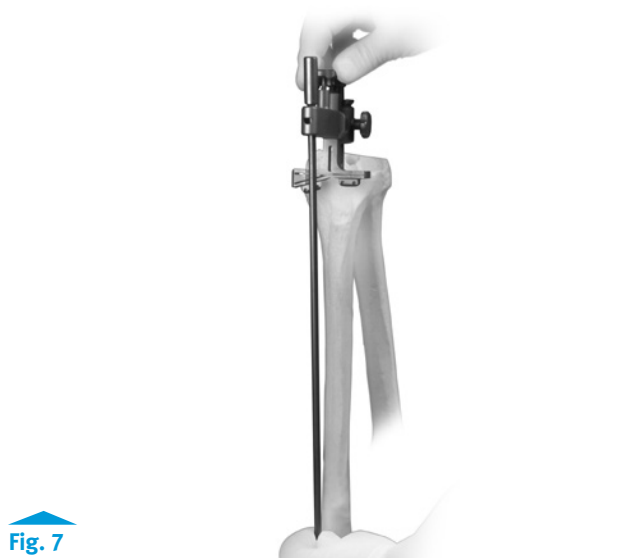

Fig. 7
- Attach the Extramedullary Alignment Arch to the Tibial Boom, tighten the thumb screw, and insert the Alignment Rod with Coupler through the arch (Fig. 7).